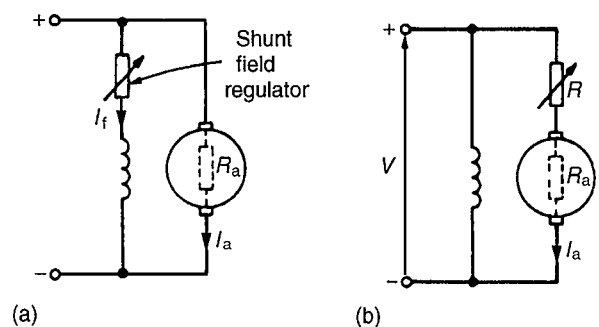

Figure 22.29
(see equation (9)). The speed is varied either by varying the value of flux, Φ , or by varying the value of R_a . The former is achieved by using a variable resistor in series with the field winding, as shown in Fig. 22.29(a) and such a resistor is called the **shunt field regulator**.
are obtained by increasing the resistance in the armature circuit, as shown in Fig. 22.29(b), where
- (a) With reference to Fig. 22.29(b), back e.m.f. at 120 A, $E_1 = V - I_a R_a = 500 - (120)(0.2) = 500 - 24 = 476$ volts.